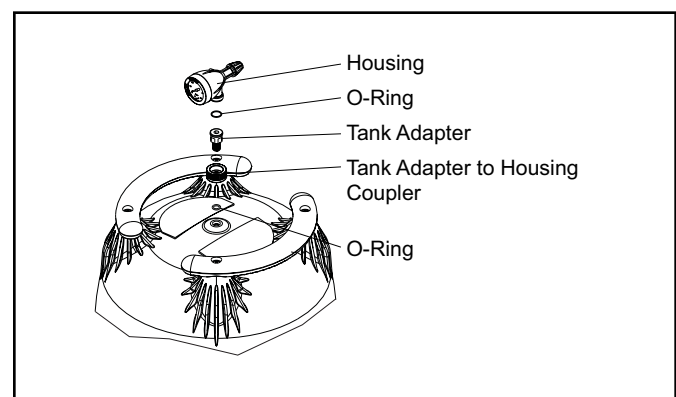

Figure 3. Pressure Gauge/Air Release Assembly
- a. Place the smaller, thicker o-ring onto the threads of the tank adapter (see Fig. 3). Slide the tank adapter through the coupling nut and into the filter tank. Use the flats on the tank adapter to tighten. Do not overtighten.